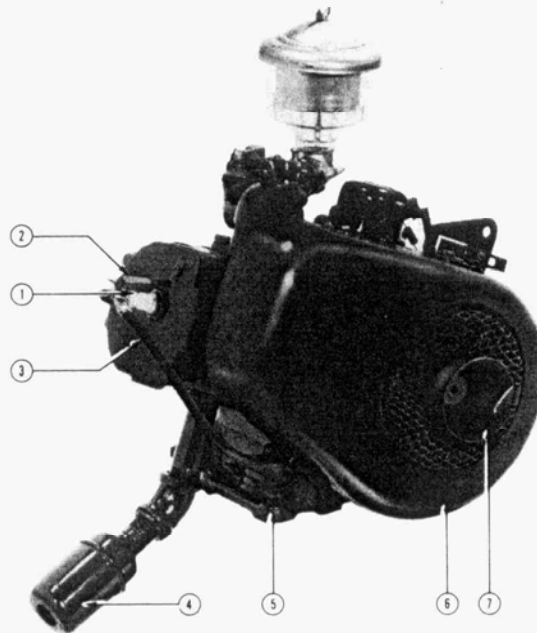

Figure 2 - Rope Starter End View of Power Unit
- 6- Open carburetor throttle about 1/3 and close the choke. Wind rope on rope starter pulley (Item 7, Fig. 2) clockwise and give a quick steady pull.
DO NOT ALLOW DIRT TO ACCUMULATE ON THE ENGINE AND UNDER THE CRANKCASE BAFFLES (ITEM 3, FIG. 2). A CLEAN ENGINE ENCOURAGES MORE CAREFUL OPERATION AND INSURES GREATER SAFETY.